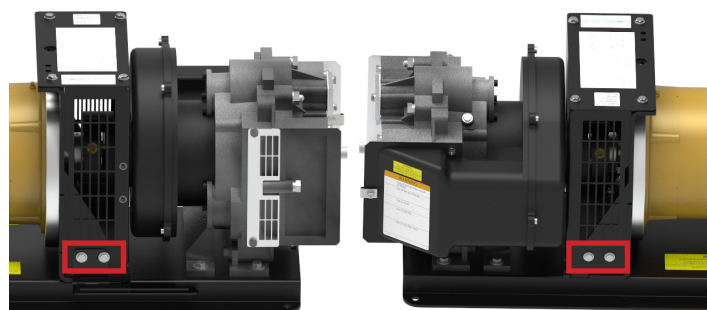

Figure 38
16. Tighten the bolts on both sides of the coupling guard (see Figure 38) to 66 in-lbs.